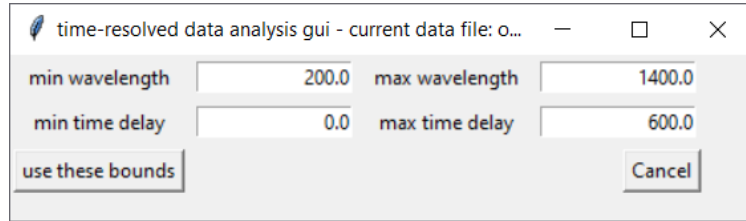

Figure 0.9 – Window to change the matrix dimensions.
Using the *change matrix bounds*-button in ① with the data file `wavelength_overlap\overlap0.txt` selected, the window depicted in fig. 0.9 is opened. There the minimum and maximum values for the time delays and or wavelengths can be set. By clicking the *use these bounds*-button, the entered values are evaluated and if valid they are applied from now on to downsize the data matrix. Whenever the data file is changed, the bounds are reset so that by default the complete data matrix is used until bounds for this data file are entered. When opening the window, the displayed values in the entries correspond to the maximum and minimum time delay/wavelength values of the corresponding data file.